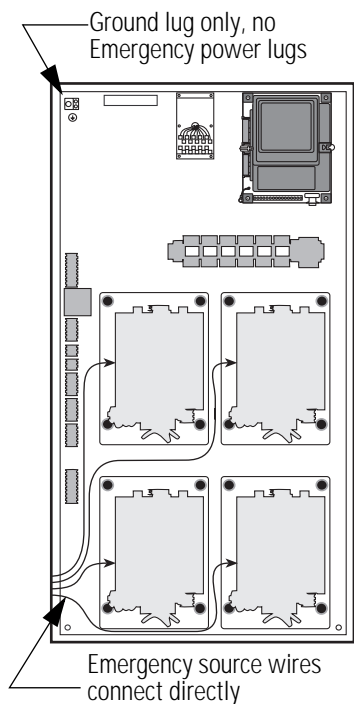

Figure 10: Discrete Emergency connections
2. Pull Emergency feed Line and Neutral wires to the Emergency feed terminals on the right side of the transfer switches. See Figure 10, left, to match switch assembly load assignments.